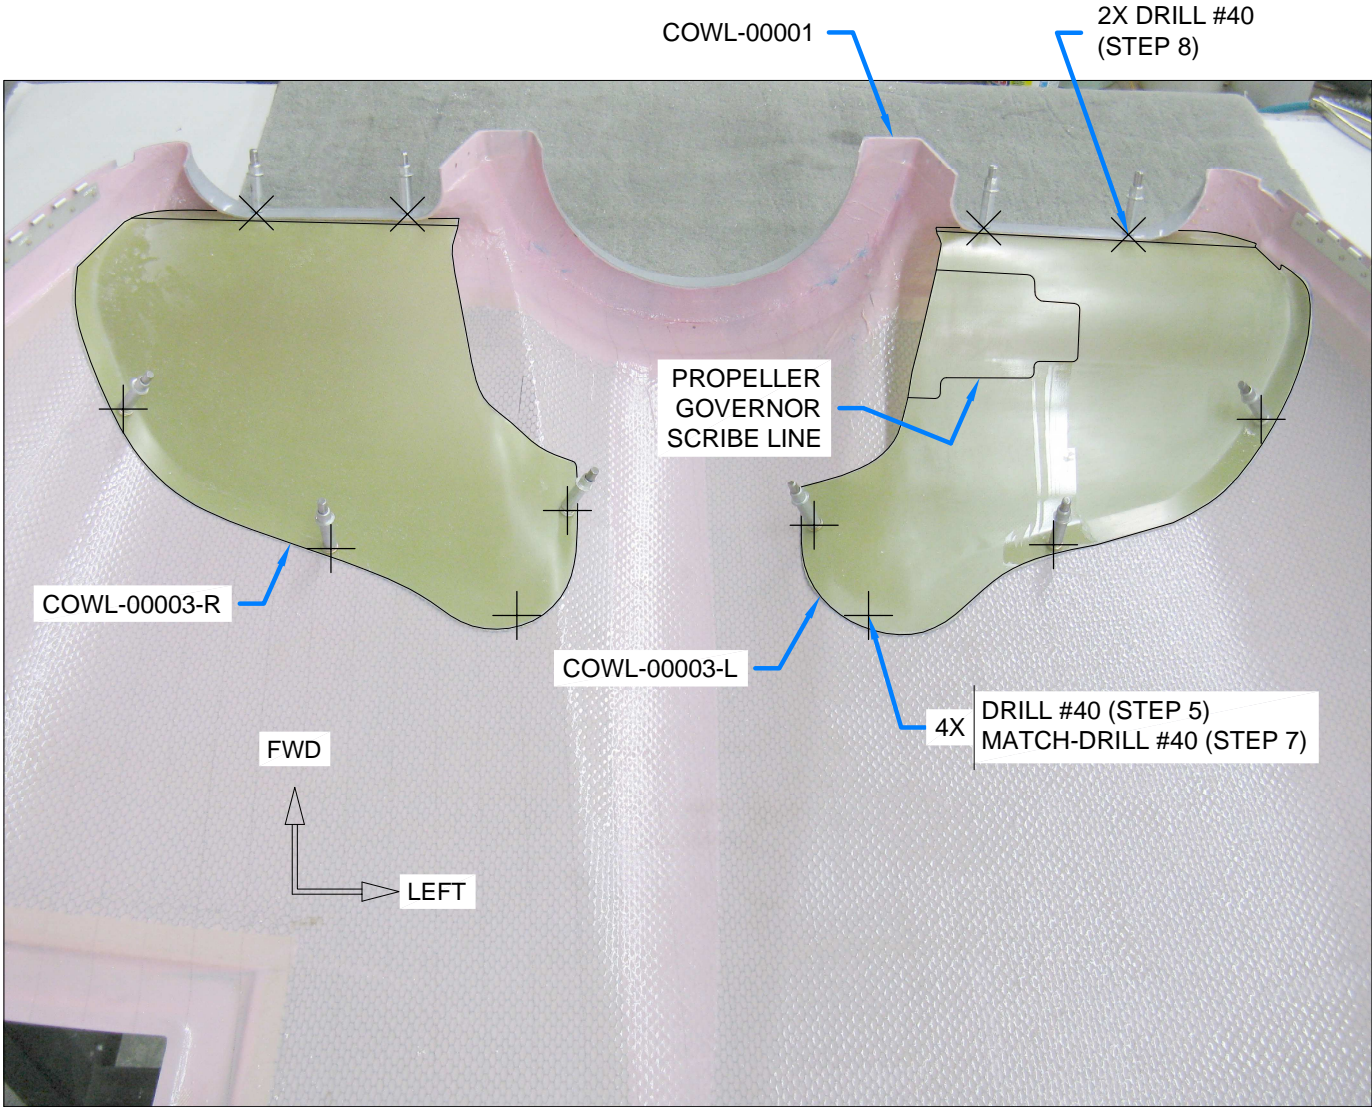

FIGURE 2: DRILL TOP COWL INLET RAMPS
Step 2: Locate the COWL-00003-L Inlet Ramp on the COWL-00001 Top Cowl as shown in Figure 2. Align the positioning scribe line on the inlet ramp with the aft edge of the left air inlet in the top cowl.
Step 5: Drill #40 four holes along the aft edge of the inlet ramp as shown in Figure 2. Drill the holes approximately 3/8 [9.5 mm] from the edge.
Step 8: Drill #40 two holes through the air inlet of the top cowl and into the inlet ramp as shown in Figure 2. Locate the holes approximately 3/8 [9.5 mm] from the aft edge of the air inlet.
Step 10: If your engine has the propeller governor mounted on the left side, remove the inlet ramp and trim it to the scribe line for the propeller governor. Only the left inlet ramp needs to be trimmed in this manner. See Figure 2.